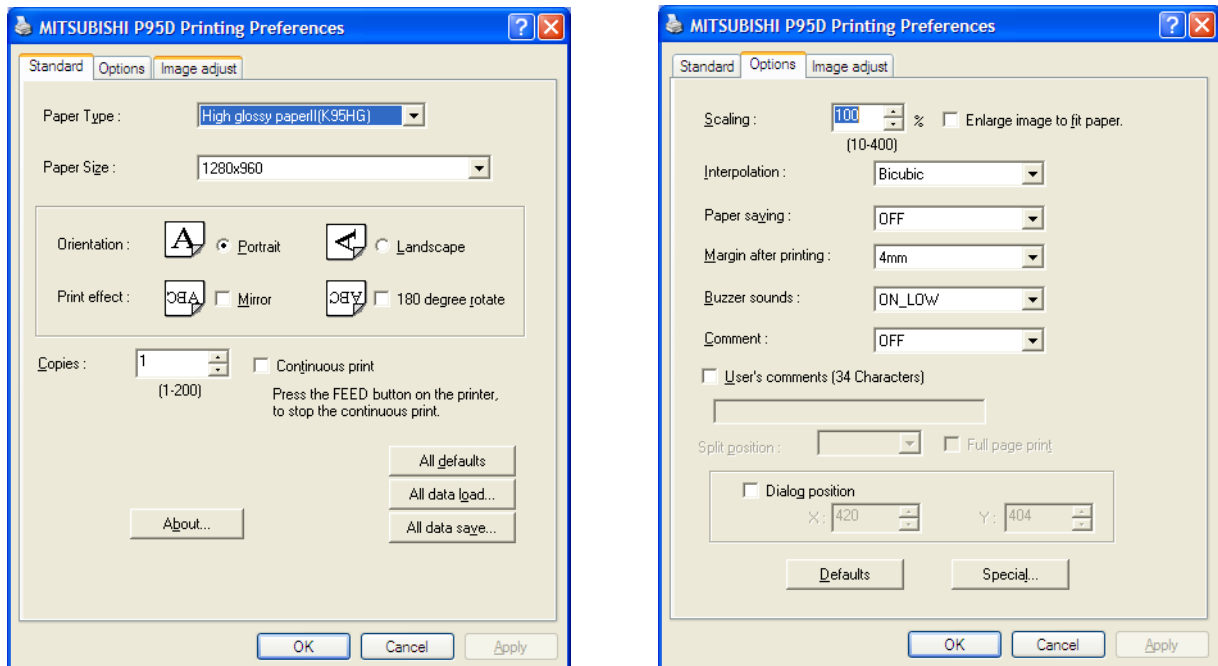

Figure 3-51 Standard & Options page
- 2.) Select the **STANDARD** page (see: Figure 3-51 below) and select:
- 3.) Select the **OPTIONS** page (see: Figure 3-51 below) and select: